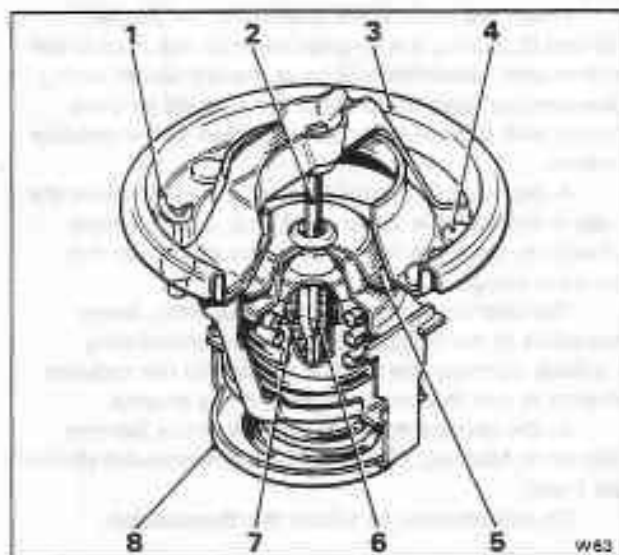

Fig. L5-2 Thermostat
The engine cooling system incorporates a wax element thermostat (see fig. L5-2). When the engine is started from cold the thermostat is in the closed position. This reduces the engine warm-up time by recirculating the coolant leaving the engine back to the coolant pump, thus by-passing the radiator. As the coolant approaches its normal working temperature the thermostat opens and allows the engine coolant to flow through the radiator. When the thermostat is in the fully open position it closes the by-pass circuit.
7. Examine the condition of the fusible plugs situated around the top of the thermostat body (see fig. L5-2). Ensure that they are intact and in good condition.